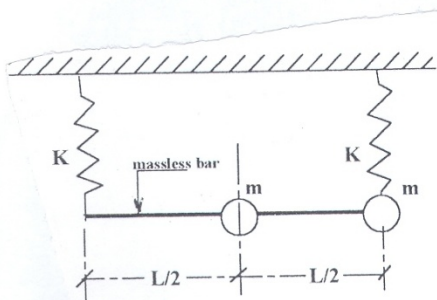

Figure 8
- 8- Write down the equations of motion and find the natural frequencies of the system shown in Figure 8.